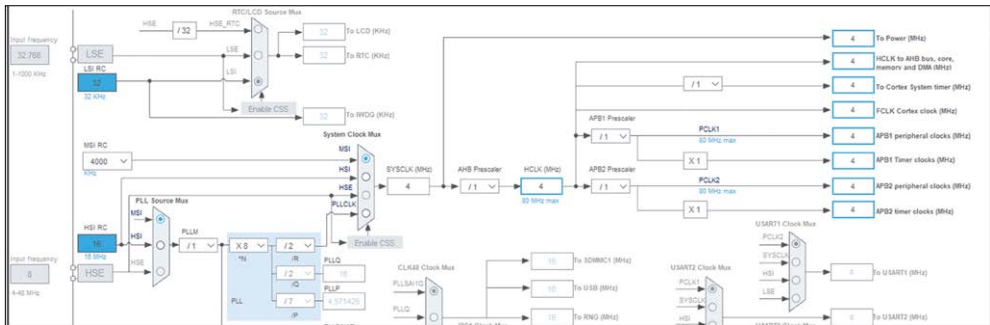

Figure 5.9: Clock configuration screen (part of the screen is shown).
- We now have to configure the clock for the MCU. Click tab **Clock Configuration**. You should see the clock configuration screen like in Figure 5.9.